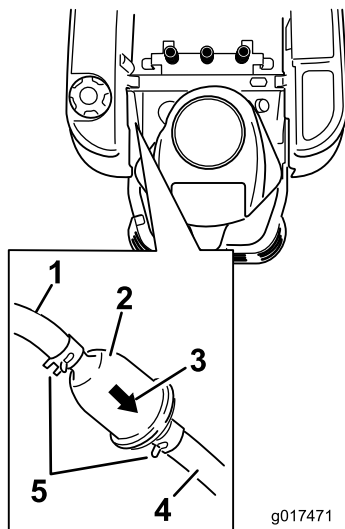

Figure 37
3. Locate the fuel filter on the side of the engine as shown in Figure 37.
4. Squeeze the ends of the hose clamps together and slide them away from the filter (Figure 37).
6. Install a new filter with the flow direction arrow coming from the fuel tank and pointing to the engine. Move the hose clamps close to the filter (Figure 37) to secure it in place.